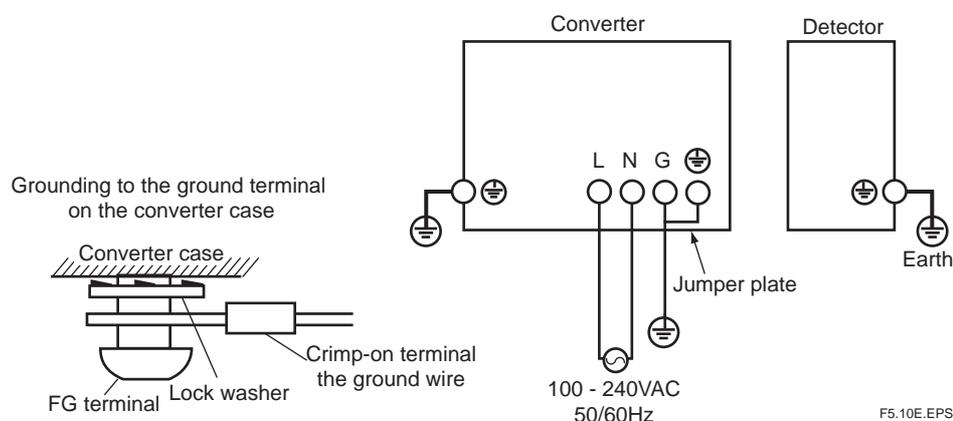

Figure 5.10 Power and Grounding wiring
- (1) Keep ground resistance to 100Ω or less (JIS Class 3 ground).
- (2) When the ambient temperature of the wiring installation is 80 to 150°C for the wiring of the detector, use wiring material with sufficient heat resistance.
- (3) When connecting the ground wiring to the ground terminal of the converter case, be sure that the lock washer is in contact with the case surface (see Figure 5.10.).
- (4) Ensure that the jumper plate is connected between the G terminal and the protective ground terminal of the converter.